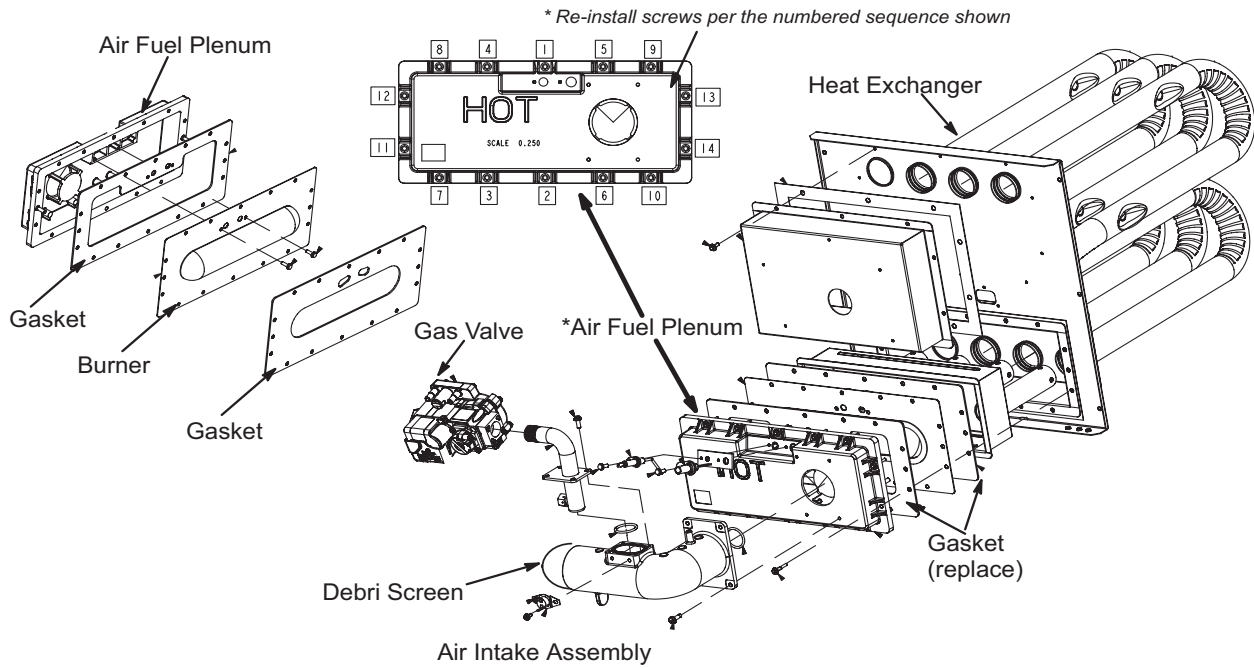

FIGURE 20
A-Heat Exchanger and Burners Figure 20
- 9 - To clean burner and intake debris screen, run a vacuum cleaner over the face of burners. Visually inspect inside the burner. Remove any blockage. Figure 20 shows burner detail. Replace gasket between burner plate and air fuel plenum then re-install burner plate.
- 12 - Reinstall the air fuel plenum and air intake assembly. Make note of the numbered sequence when re-installing the air fuel plenum. Follow the sequence as shown in Figure 20. Torque screws to a maximum of 100 ± 5 in - lbs. and a minimum 60 in - lbs.